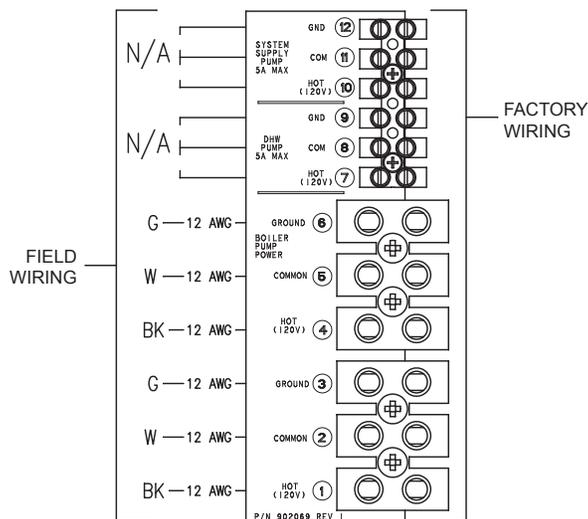

Figure 33. Cascade Follower
1. Once the primary heater has been identified, additional heaters will be designated as follower heaters. Ensure DIP switch 2 on each follower VERSA is set to the OFF/Down position. See Figure 33.